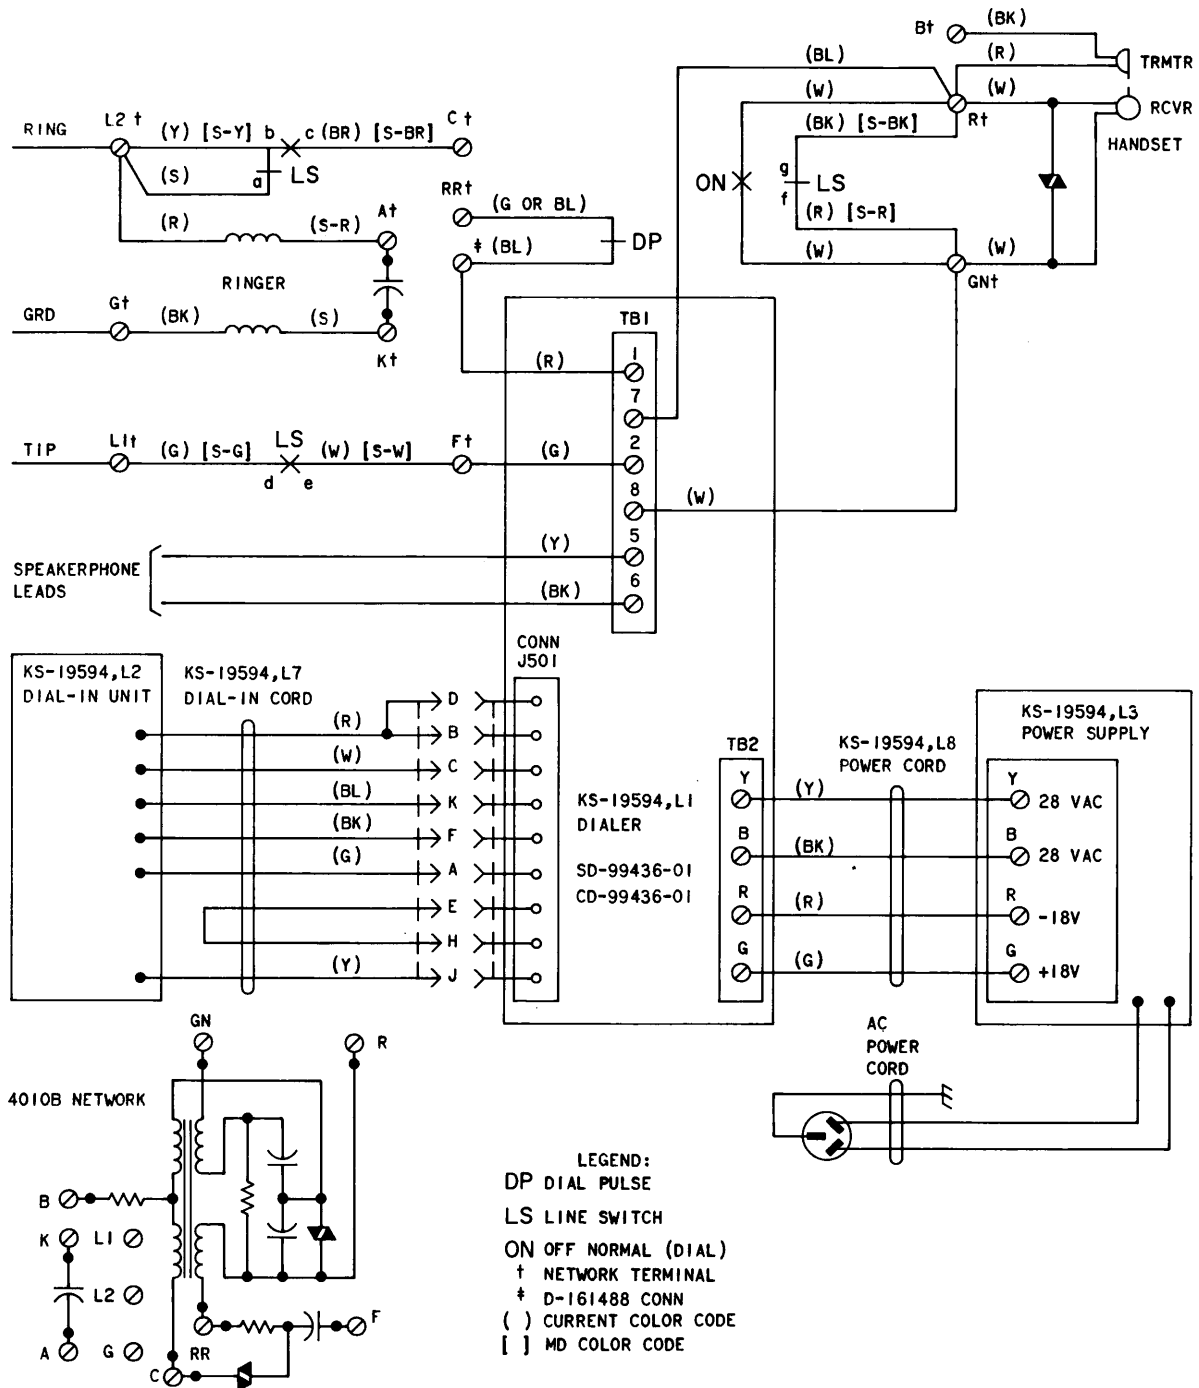

Fig. 2—Typical Installation Layout, KS-19594 Dialer
**2.12** Fig. 2 shows a partial schematic of a typical dialer installation. SD-99436-01 contains a complete schematic of the various dialer components and CD-99436-01 gives a description of the circuits.